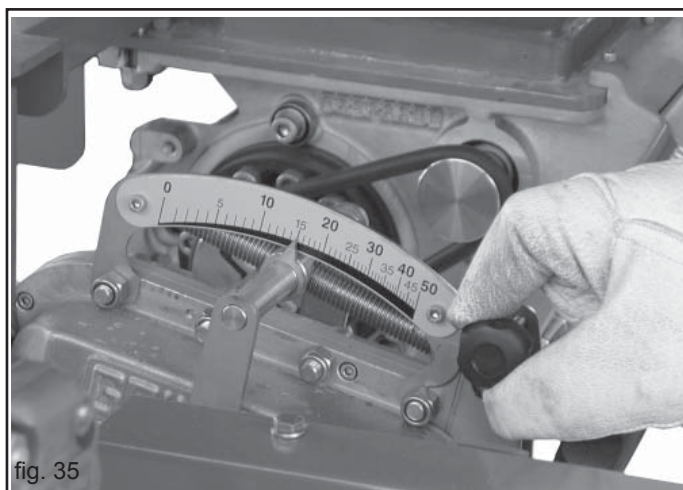

fig. 35
- Loosen the fastening screw on the gear adjuster (Fig. 35)...